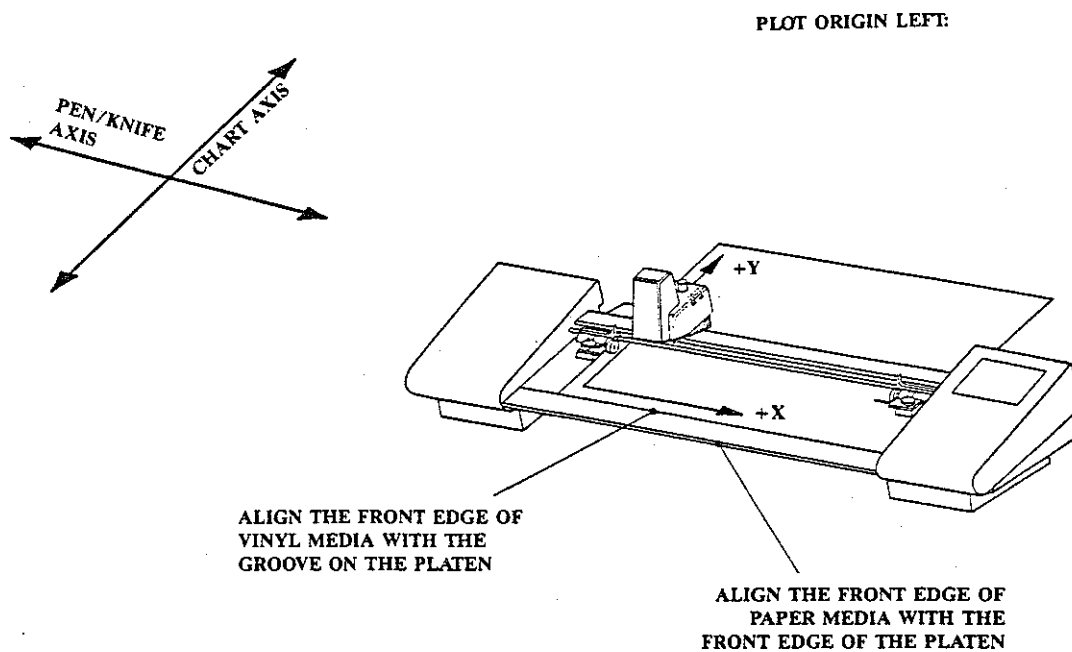
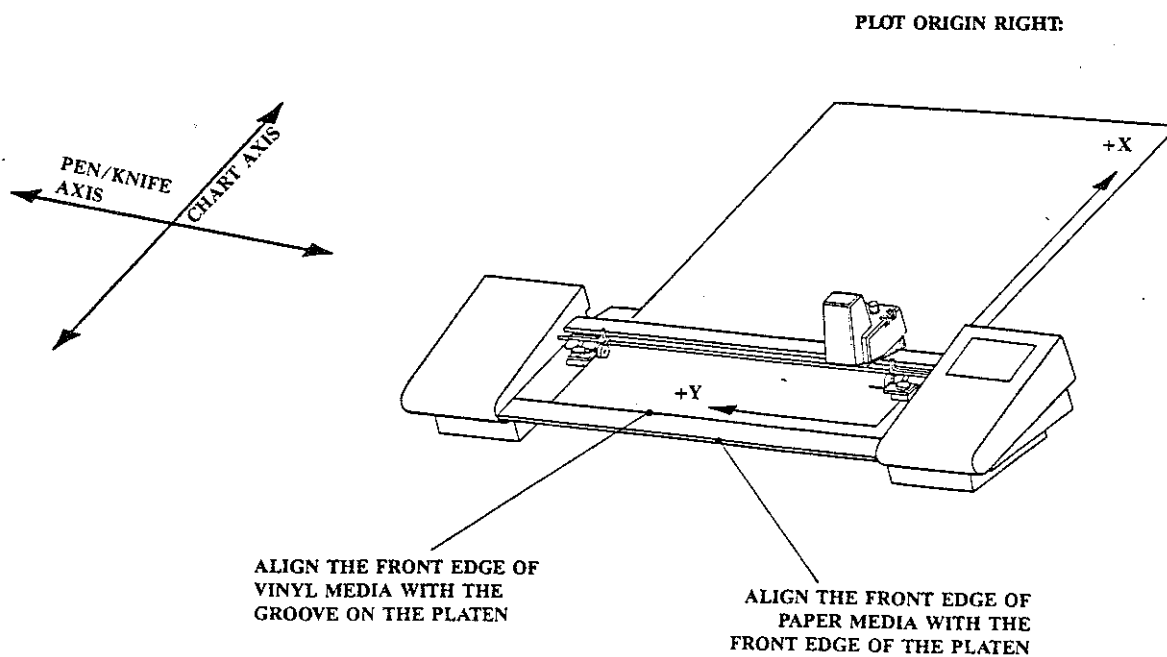

FIGURE 1-10. SMALL CHART X-,Y-AXIS ORIENTATION
FIGURE 1-11. LARGE CHART X-,Y-AXIS ORIENTATION
By using the menu to rotate the plot origin to the right or left, the cutter models can accommodate a small chart or a large chart. A left (small or half) chart orientation exists when the length of the chart side aligned with the knife/pen axis is longer than the length of the chart side aligned with the chart axis as shown in Figure 1-10. A right (large or full) chart orientation exists when the length of the chart side aligned with the chart axis is longer than the length of the chart side aligned with the knife/pen axis as shown in Figure 1-11. The menu also has an option which allows the cutters to automatically select the correct left/right origin for a particular chart. The menu parameters and options are explained in Paragraph 2.4.
If the knife holder is installed and vinyl media is being loaded into the cutter, align the front edge of the vinyl chart with the front loading groove as shown in Figures 1-10 and 1-11 and center the media between the pinch roller wheels. If the pen holder is installed and paper media is being loaded into the cutter, align the front edge of the paper chart with the edge of the front platen as shown in Figures 1-10 and 1-11 and center the media between the pinch roller wheels.
3. Align the front edge of vinyl media with the groove on the platen as shown in Figures 1-10 and 1-11 and then center the media between the two pinch roller wheels. Align the front edge of paper media with the front edge of the platen as shown in Figures 1-10 and 1-11 and the left and then center the media between the two pinch roller wheels. Lower both pinch roller arms.